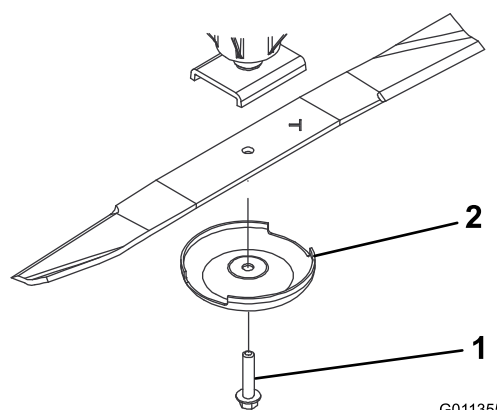

Figure 72
3. Remove the blade bolt, anti-scalp cup, and blade from the spindle shaft (Figure 72).